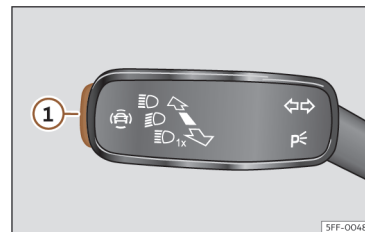

Fig. 62 On the turn signal and main beam lever: button for driver assistance systems (depending on versions).
- Briefly press the **>>> Fig. 62 ①** button to open the **Assistants** menu.